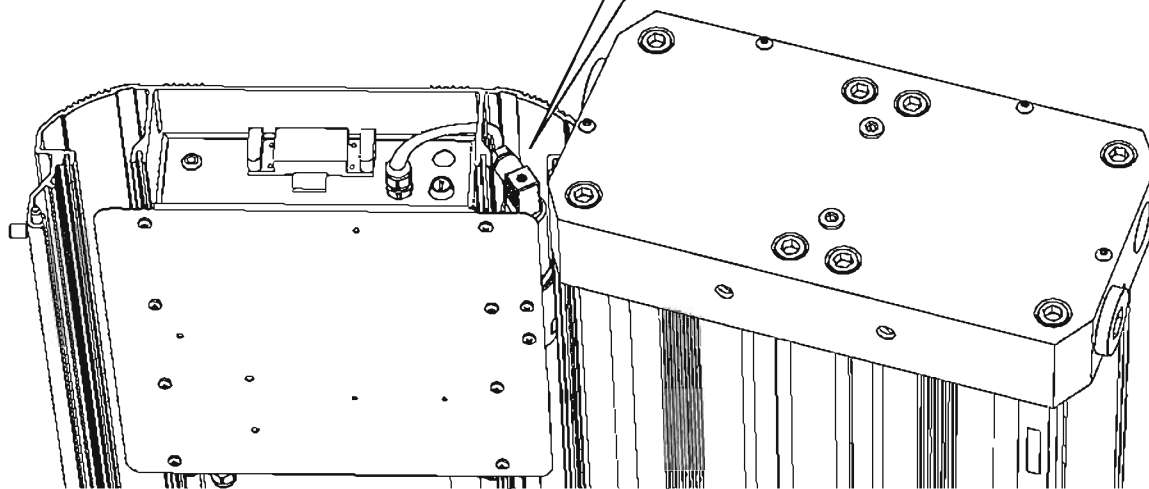

Figure 3.
4. Remove the screw from the sensor plug and detach it from the dew point sensor assembly. (See Figure 3 & 4)
8. Replace the sensor plug and screw to complete the sensor assembly. (See Figure 3 & 4 page 27)